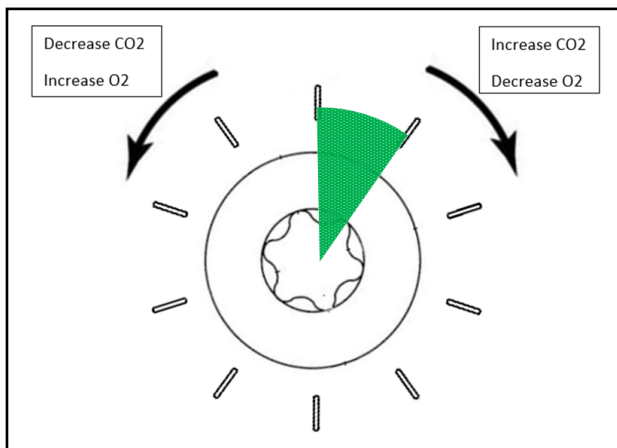

Fig.12
- Adjust low fire screw (offset) clockwise in small 1/10th of a turn adjustments until the CO₂ measurement is within the tolerance band but no greater than 1% CO₂ increase than the combustion reading after throttle adjustment at low fire (Fig.12). Refer to result recorded in Table 4 – Section 2B.